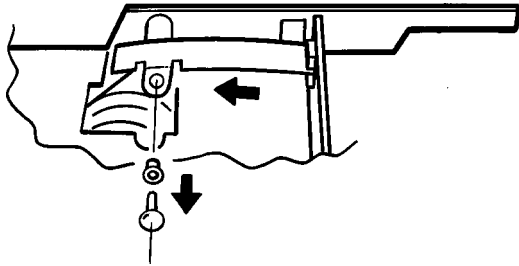
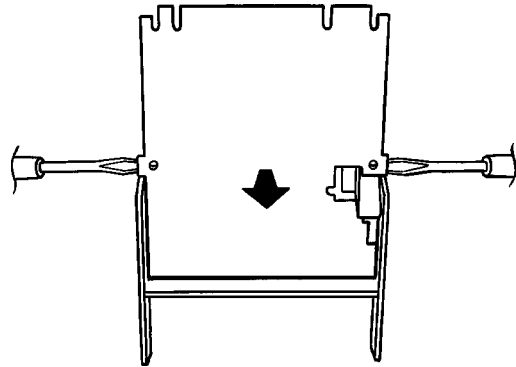

Figure 4 Static earthing shim removal
Figure 5 Release control board from mounting pillars
6. Turn the recorder upside down, remove the static earthing shim (secured by a plastic rivet) as shown in figure 4, and gently prise the control board off its mounting pillars as shown in figure 5.